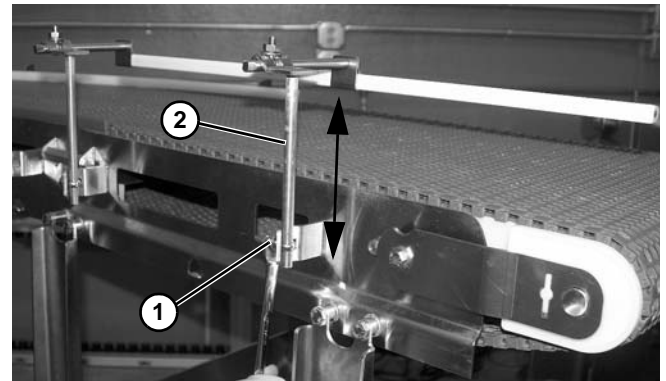

Figure 27
2. Loosen nut (Figure 27, item 1), and adjust the guide post (Figure 27, item 2) height, as needed. Tighten nut.